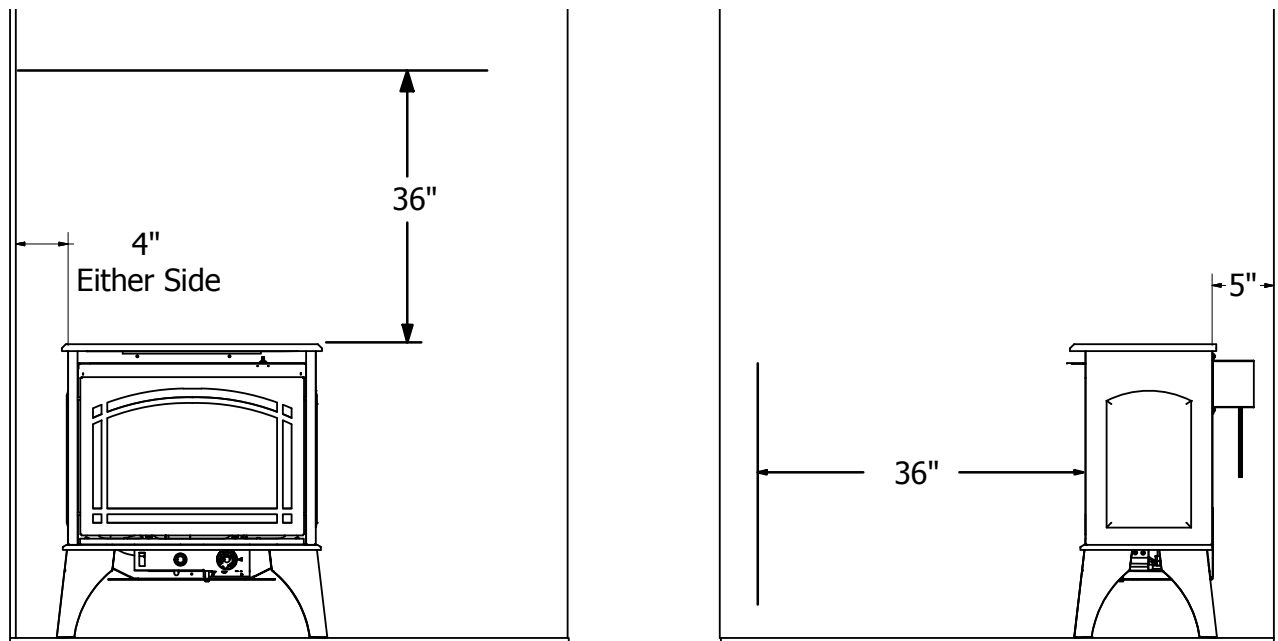

Fig. 6 - Minimum Clearance to Combustible Material
IMPORTANT: Maintain the minimum clearances shown in Figure 6 on page 11. If you can, provide greater clearances from floor, ceiling and joining wall.
- A. Clearances from the side of the heater cabinet to any combustible material and wall should follow diagram in Figure 6.